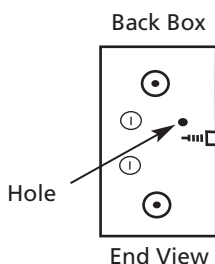

Figure 5
5. Using four (4) wood screws or drywall screws (field supplied) or four (4) nails (field supplied), secure back box to studs (see Figure 2B). If wall studs are greater than 16" o.c., use only 2 fasteners and on the opposite end of the back box drive a 1" sheet metal screw (provided) through hole in end cap. This will draw the back box tight with drywall when grille is installed (see Figure 5).